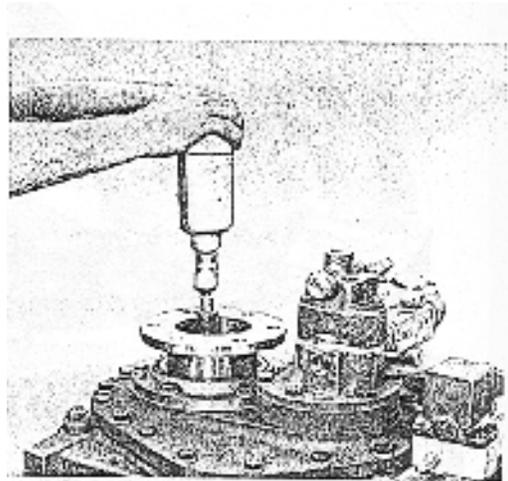

Figure 50. Installing Retainer Plate.
9. Install output retainer plate with hex head cap screws. Torque to 62 lbs-ft. see figure 50.